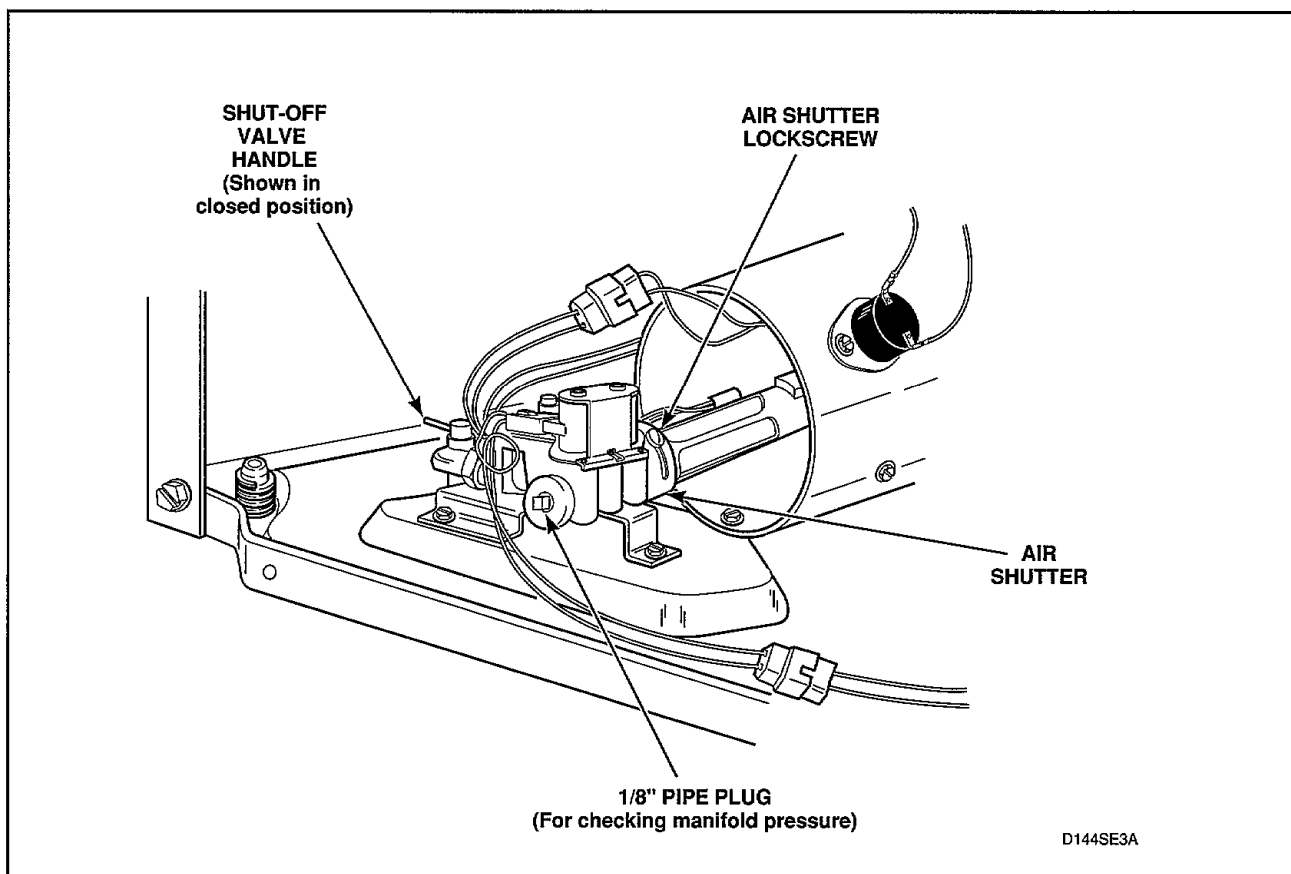

Figure 47
- Allow the dryer to operate for approximately five minutes, then loosen the air shutter lock screw, *Figure 47*.
- After proper flame is obtained, tighten air shutter lock screw firmly, *Figure 47*.
- Close gas shut-off valve, *Figure 47*.